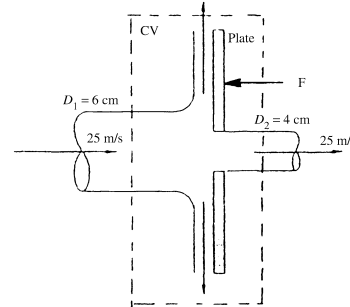

Fig. P3.64
3.64 The 6-cm-diameter 20°C water jet in Fig. P3.64 strikes a plate containing a hole of 4-cm diameter. Part of the jet passes through the hole, and part is deflected. Determine the horizontal force required to hold the plate.